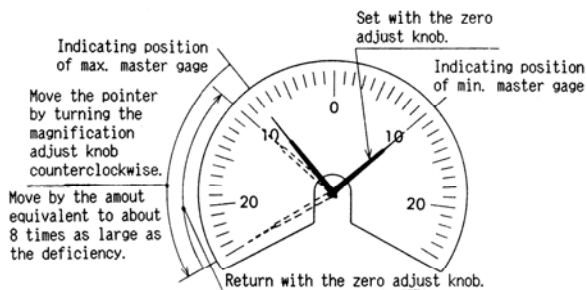
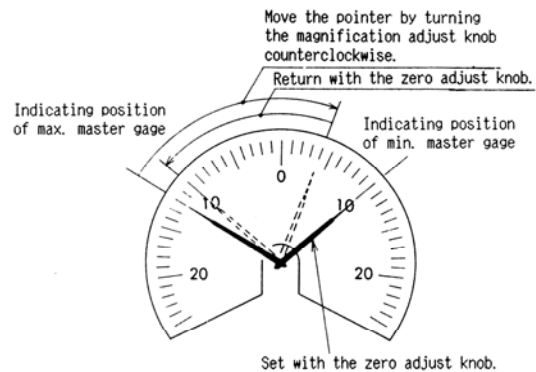

Fig.1 When magnification is insufficient (Insufficient by 2μ in this example)
Fig.2 When magnification is excessive (Excessive by 2μ in this example)
The air is discharged into the atmosphere from the nozzle of the gaging head and the zero adjust throttle. (MD-24 Series have two independent circuits as shown in Fig. 1.)
- 5) When the pointer does not reach "10" on the left scale (Fig. 1), the magnification is too low. In this case, once turn the magnification adjust knob clockwise until the pointer exceeds "10" and reaches "25" on the left scale and then, turn the zero adjust knob clockwise so as to return the pointer to "10" on the left scale. (The Fig. 2 shows how to adjust when the magnification is too high.)
Refer to Fig. 1 and Fig. 2.